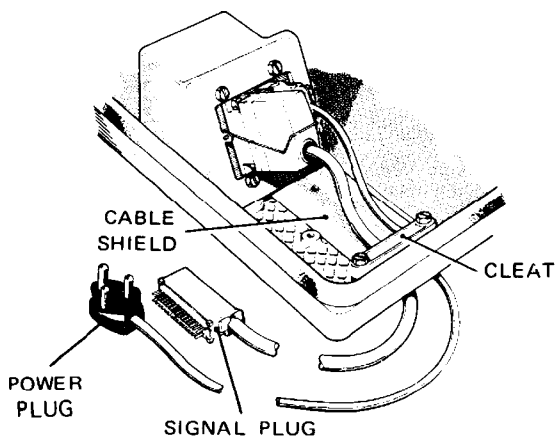

Fig. 2.4 SIGNAL AND POWER PLUGS
- 2.15 If it is necessary to assemble power and signal cords, remove the cable cleat Fig. 2.4, which is secured by two bolts. This will enable the cable shield to be lifted clear of the base tray, thus uncovering the cable entry aperture.